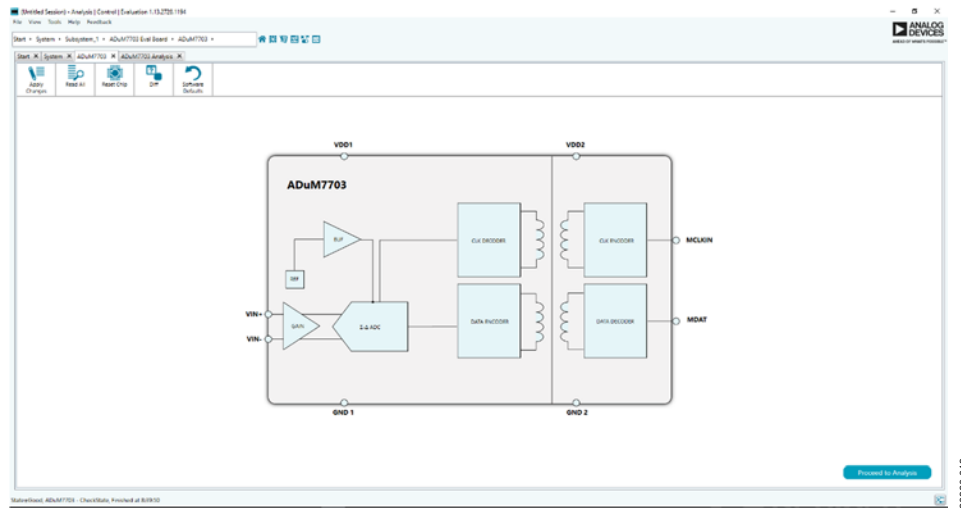

Figure 13. Chip View Window
3. Double click the **ADuM7703 Eval Board** icon to open the chip view window shown in Figure 13.